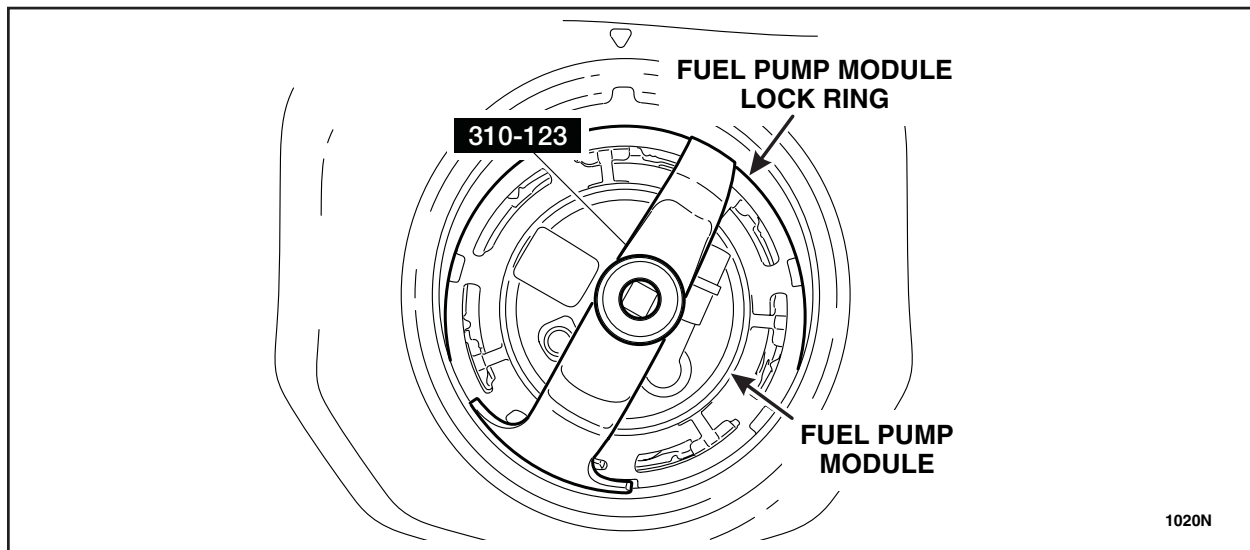

FIGURE 5
20. Using special tool 310-123. Remove the fuel pump module and the fuel level sensor module lock rings. See Figure 5.
39. Using special tool 310-123, install the fuel pump module and the fuel level sensor module lock rings. See Figure 5.